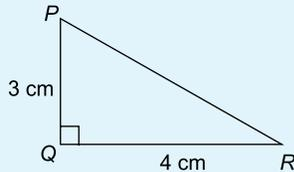

Figure 1.9
7. In the right-angled triangle  $PQR$  shown in Figure 1.9, angle  $R$  is equal to: